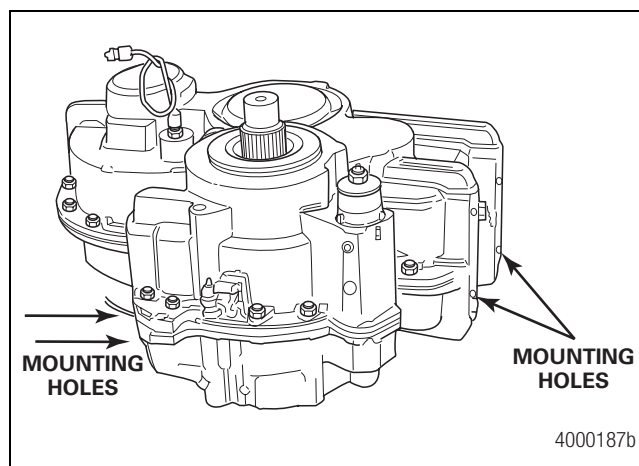

Figure 3.2
12. Construct angle iron brackets or similar fixtures. Attach the brackets to the front half of the transfer case by installing bolts through the mounting holes in the transfer case. Figure 3.2.
14. Attach a suitable lifting device to the eye-bolts to lift the transfer case. Use the angle iron brackets to mount the case in the repair stand. Figure 3.2.